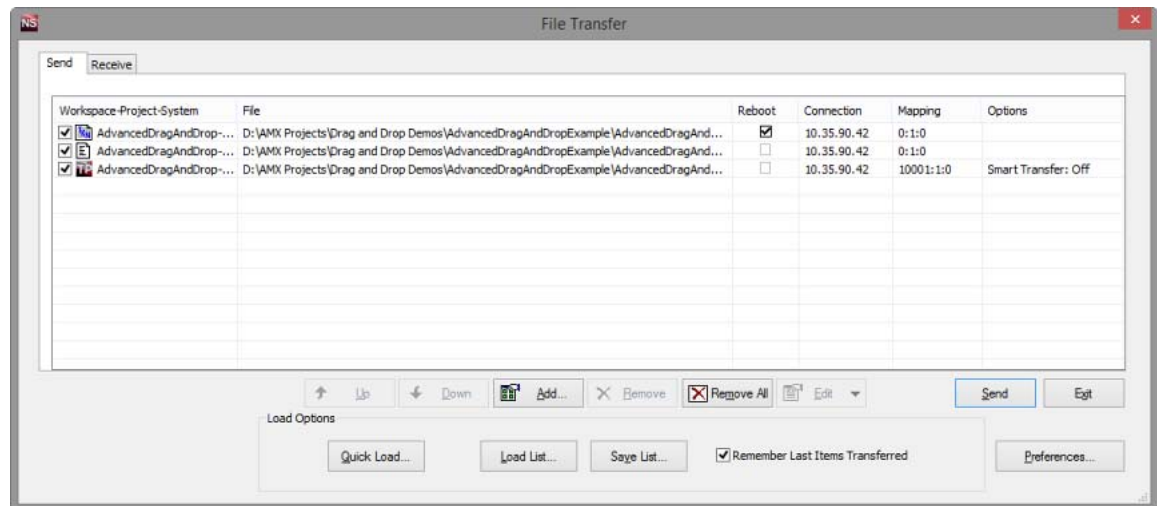

FIG. 76 File Transfer dialog - indicating files in the DragAndDropNoGroups.apw workspace queued for transfer
- e. Select **OK** to return to the *File Transfer* dialog (FIG. 76):